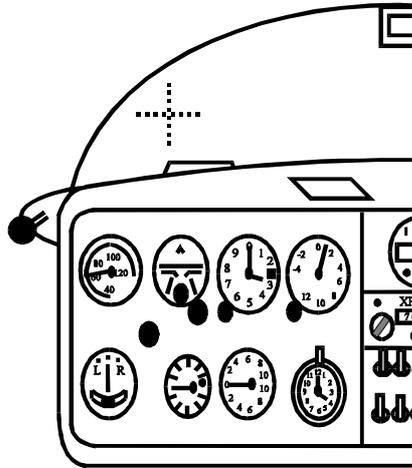

Fig 6. The view straight ahead from the left hand seat.
11. **Lookout and use of the visual horizon.** You should use visual judgment to assess changes in attitude and listen to the changes of airflow noise. Basic flying skills rely on the use of all of your senses. Do not depend on the instruments, but use them to confirm the visual cues you can see by looking at the horizon ahead and for making fine adjustments. Note that your view straight ahead is directly over the left hand edge of the loudspeaker grill. See Fig 6.